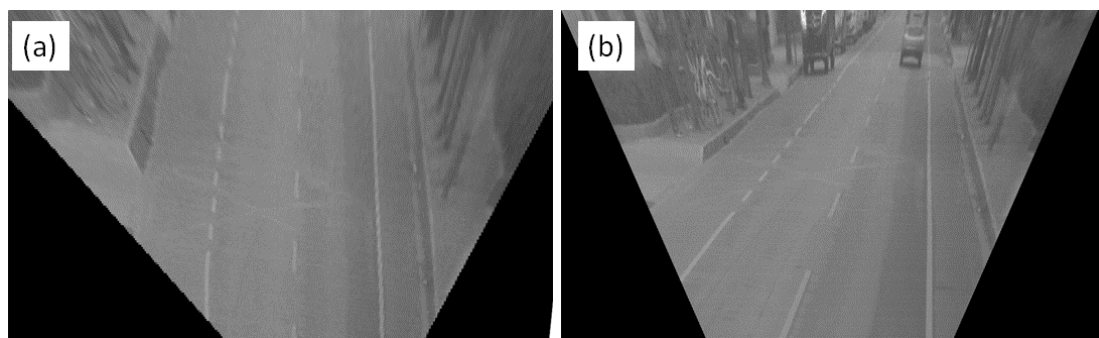

Fig. 8 (a) Right bird view and (b) wrong bird view
- 4) Check the parallelism of lane lines on “bird_view” window. If all lane lines are mutually parallel and lines are vertical in the image as shown in Fig. 8(a), the extrinsic parameters
are acceptable, though vibration is somewhat influent the bird view. If lane lines are obviously non-parallel or not vertical as shown in Fig. 8(b), the extrinsic parameters are wrong.